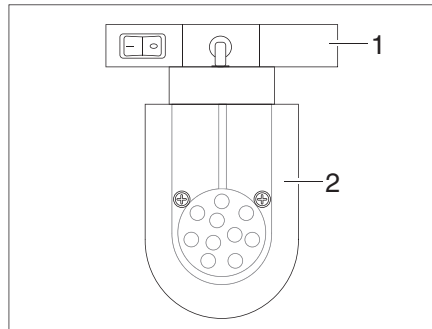

Fig. 146 LED spot light (example)
- Grasp the holder (Fig. 146,1) and turn it 90°.
- Remove the LED spotlight (Fig. 146,2) from the rail system.
- Insert the LED spotlight (Fig. 146,2) into the rail system at the desired position and turn 90°.